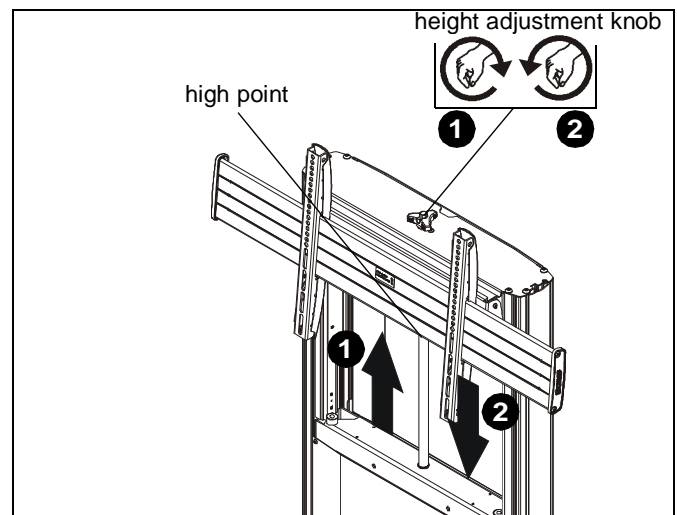

Figure 22
1. Turn height adjustment knob clockwise to raise display. (See Figure 22)
**WARNING:** Do not attempt to raise or lower the adjustment carriage beyond its upper or lower limit. High and low points are shown in Figures 22 and 23.